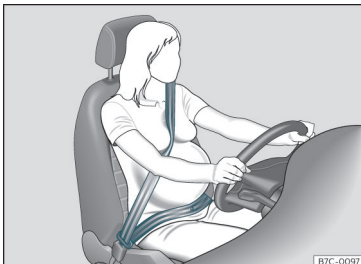

Fig. 11 Position of seat belt during pregnancy.
In the case of **pregnant women**, the seat belt must lie evenly across the chest and as low as possible over the pelvis, never across the stomach and must be worn properly at all times during the pregnancy »» **Fig. 11**.
- For pregnant women, the lap part of the seat belt must lie as low as possible over the pelvis and always lie flat, “surrounding” the stomach»» **Fig. 11**.